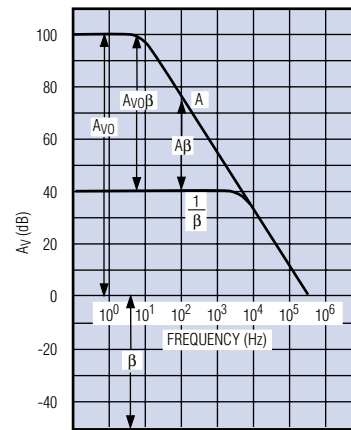

Figure 9. Output impedance generally rises with frequency.
Remember that high loop gain is necessary for low output impedance, according to the equation  $R_{OUT} = R_O / (1 + A_{VO}\beta)$ , where  $R_O$  is the open-loop output impedance and  $A_{VO}\beta$  is the loop gain.  $A_{VO}\beta$  decreases as you approach the op amp's unity-gain crossover frequency, leading to increased output impedance (Figure 9). Higher output impedance makes it difficult for the amplifier to handle current spikes from the ADC.
The Bode diagram of Figure 9 also depicts, for the noninverting circuit, the relationships between open-loop gain (A), the feedback-attenuation factor ( $\beta$ ), noise gain ( $1/\beta$ ), and loop gain ( $A\beta$ , or  $A_{VO}\beta$  at DC) as functions of frequency. Figure 9 shows the variation of open-loop gain vs. frequency for a typical operational